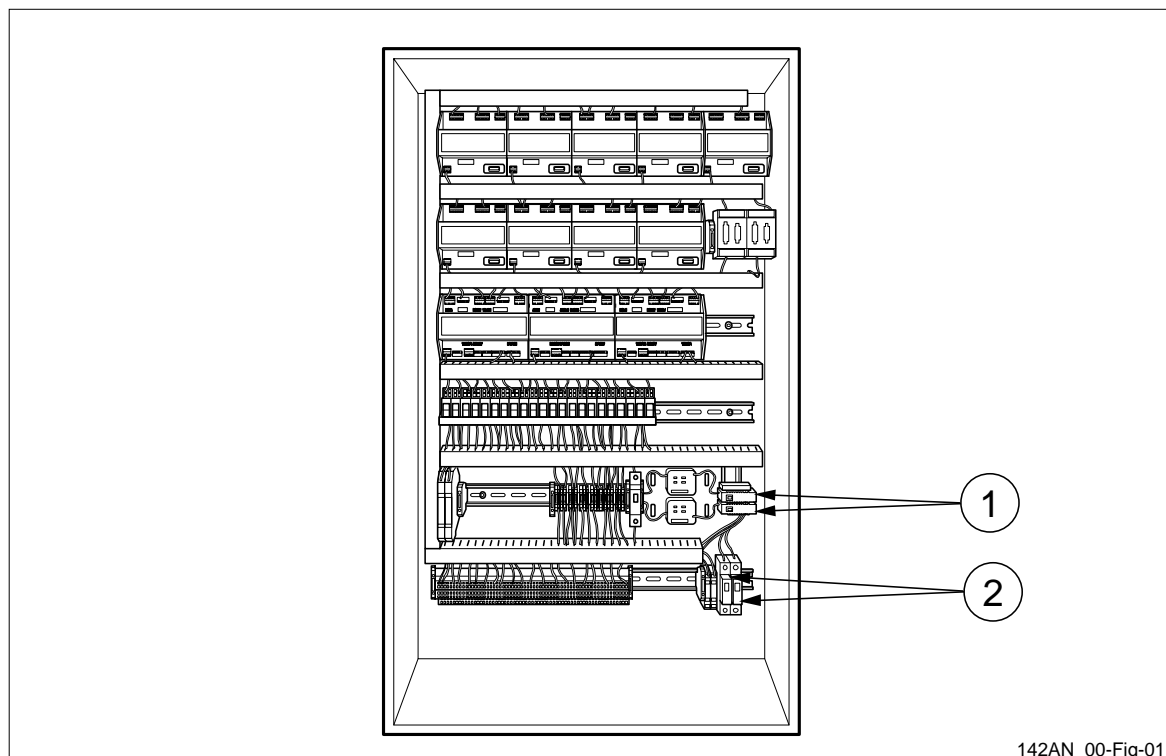

Figure 3 Surge filters in a bridge unit cabinet.
1. Open the cabinet and make sure the incoming power is interrupted by setting the automatic fuses (see position 2 in figure 3) to position OFF.